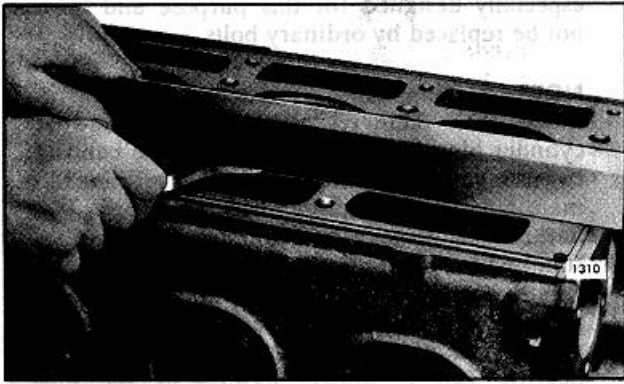

Fig. 16. Checking Top Face of Cylinder Block
5. Check the top of the block for flatness with an accurate straight edge and a feeler gage (Fig. 16).